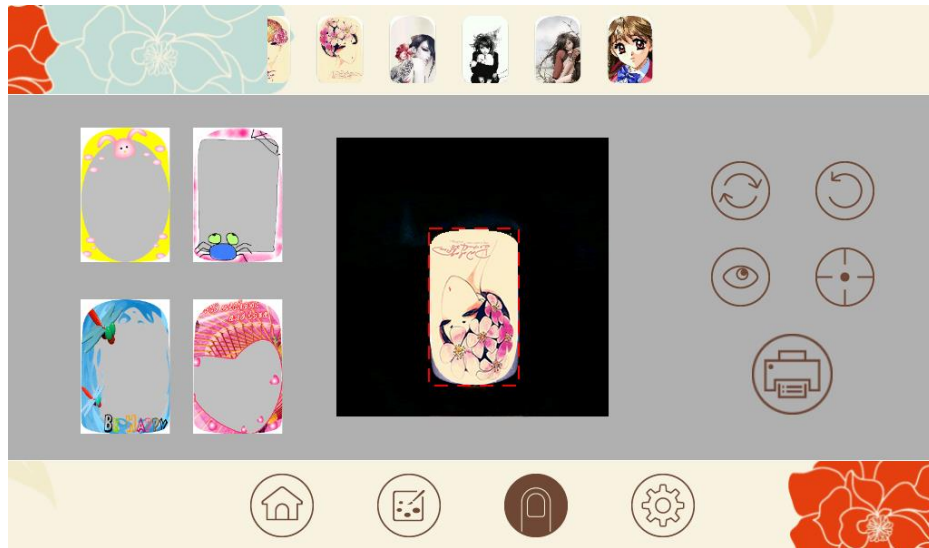

Figure 10
(3) Select the printing pattern in the preselected area and the selected pattern will display in the editing area, as shown in Figure 10.